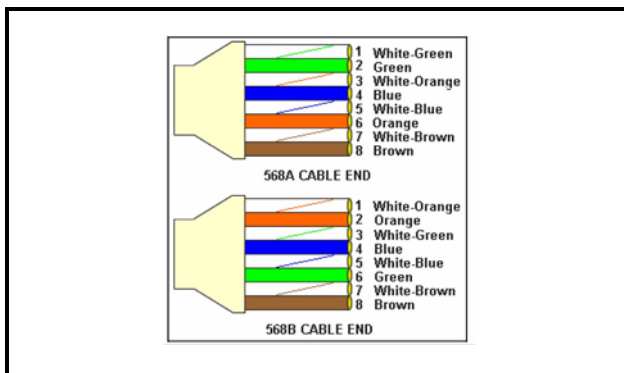

Figure 4-2 - 586A & 586B Cable End Wire Color Diagram
- Untwist the wires to within 1/8" of the jacket. Arrange the wires according to TIE/EAI 586A & 586B (*Figure 4-2*). For straight patch cables, wire both ends 586A; for crossover cables, wire one end 586A and the other 586B. Insert wires into the loading bar. Trim excess wires.